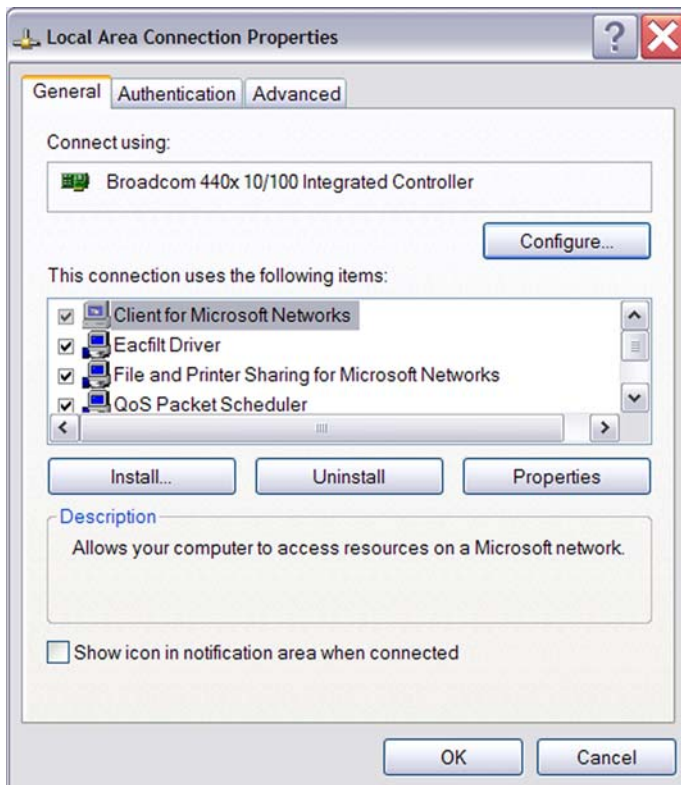

Figure 9. The Local Area Connection Properties Dialog Box
3. In the Local Area Connection Status dialog box, click the Properties button. The Local Area Connection Properties dialog box appears (Figure 9).